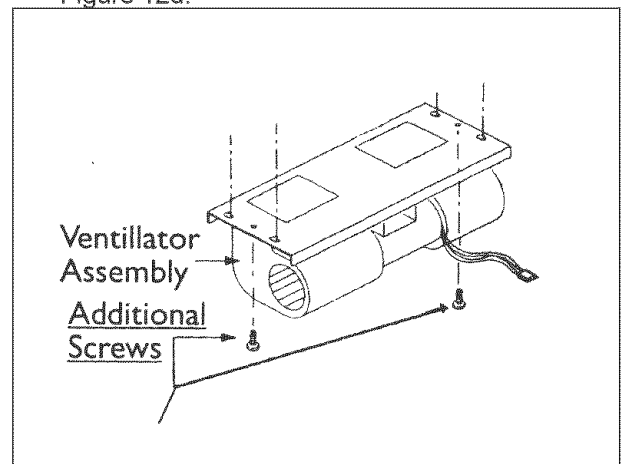

Figure 12d
4. Attach two additional screws as shown in Figure 12d.
Verify that the two additional screws in Figure 12d are installed and properly tightened before continuing.